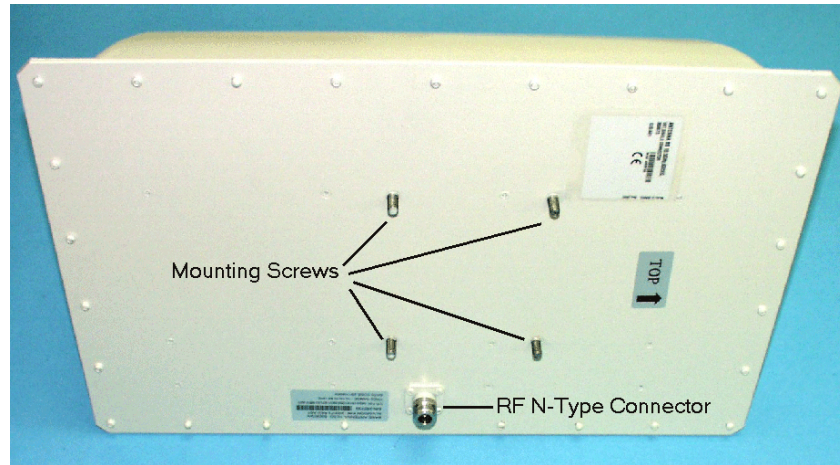

Figure 3-16: BS 10.5 GHz 90° Vertical Sector Antenna (bottom)
2. Locate the eight mounting bolts (four for each bracket). Referring to Figure 3-16, bolt each of the mounting brackets (with straps already in place) to the rear of the BS-RFU